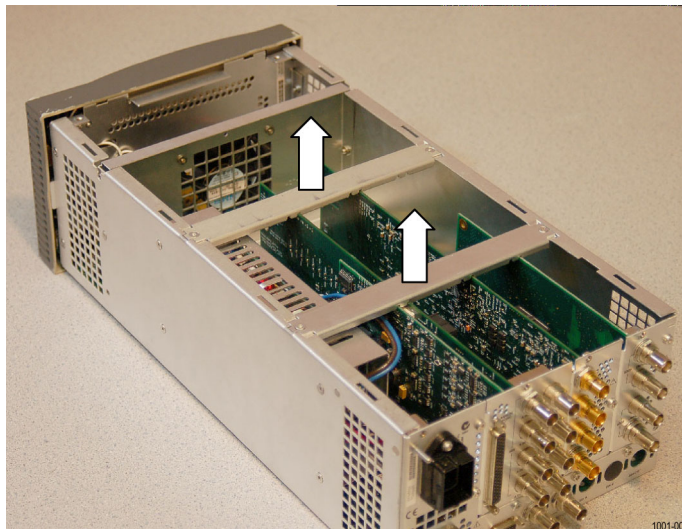

Figure 4: Removing the module guide brackets (option boards shown)
6. Remove the module guide brackets. (See Figure 4.) Note that the brackets are keyed to the fit on the chassis in only one direction.